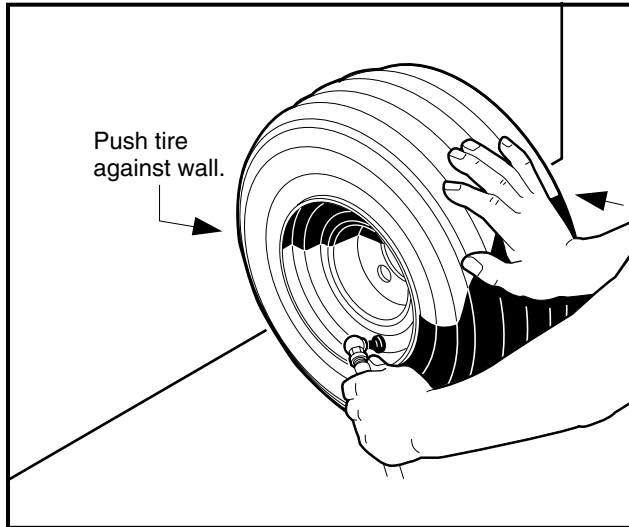

Figure 8-2 Inflate Tire
6. Place the tire and wheel assembly against a wall in an upright position and push it against the wall while inflating the tire to 30-34 psi (2.07-2.34 Bars). The three-point contact (wall, floor, and hand) will help ensure that beads snap into place and form a proper seal as the tire is inflated (**Figure 8-2, Page 8-5**). **See following WARNING.**